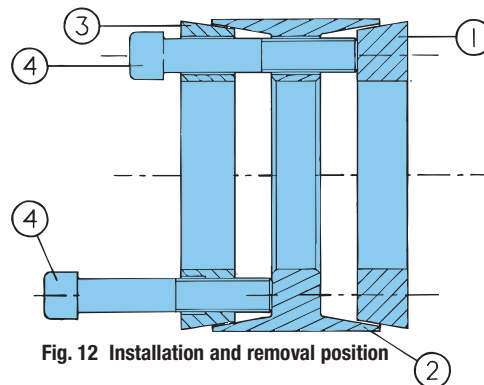

Fig. 12 Installation and removal position
2. Back-off all locking screws by at least two turns. Take out at least 3 equally spaced screws and insert them into adjacent push-off threads in front thrust ring ③ and outer ring ② as shown in Fig. 12. This procedure will keep the tapers apart for easy installation of the locking assembly. If the holes are covered with protective plastic caps remove them first, of course.
2. Remove plastic caps located in front thrust ring ③ and transfer the locking screws into all push-off threads provided in front thrust ring ③ and outer ring ② as shown in Fig. 12.
3. To release connection, progressively tighten all screws in diametrically opposite sequence except the two (2) screws adjacent to the slit, which must be tightened one after the other.